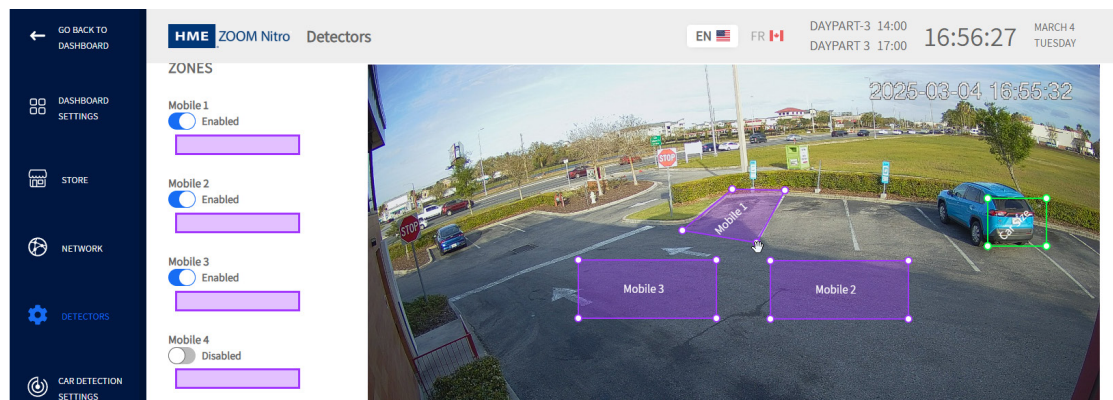

Fig. 24
7. The polygon has four adjustable vertices, one on each corner. After moving the box into a parking space grab any corner vertex and adjust the polygon to match the parking space. See Mobile 1 in Fig. 24.